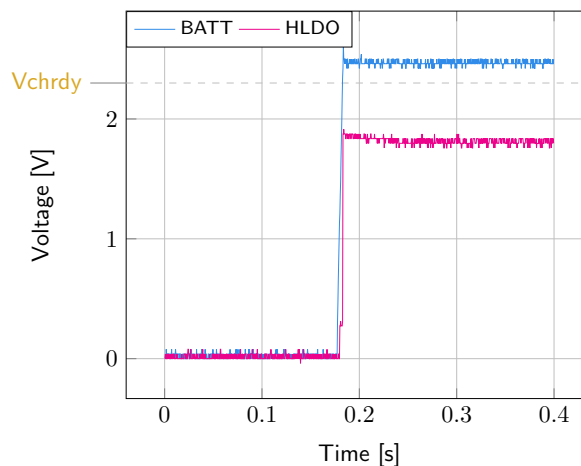

Figure 7: Start-on-battery functionality.
- **HLDO/LLDO**: The voltage rises as the AEM40940 is providing energy to the load (see Figure 7).